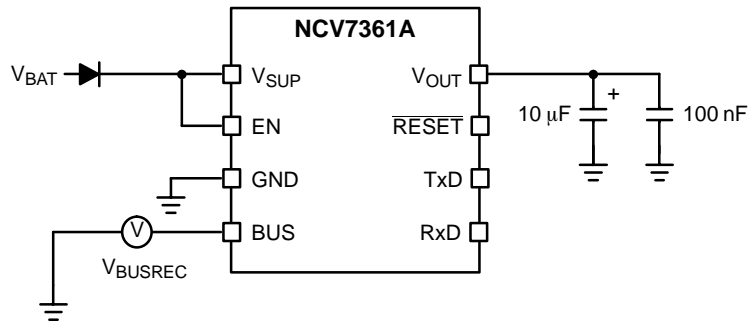

Figure 7. Test Circuit for Bus Voltage “Recessive” (V_{BUSREC})
7. See Figures 7, 8, and 9 for test setup.